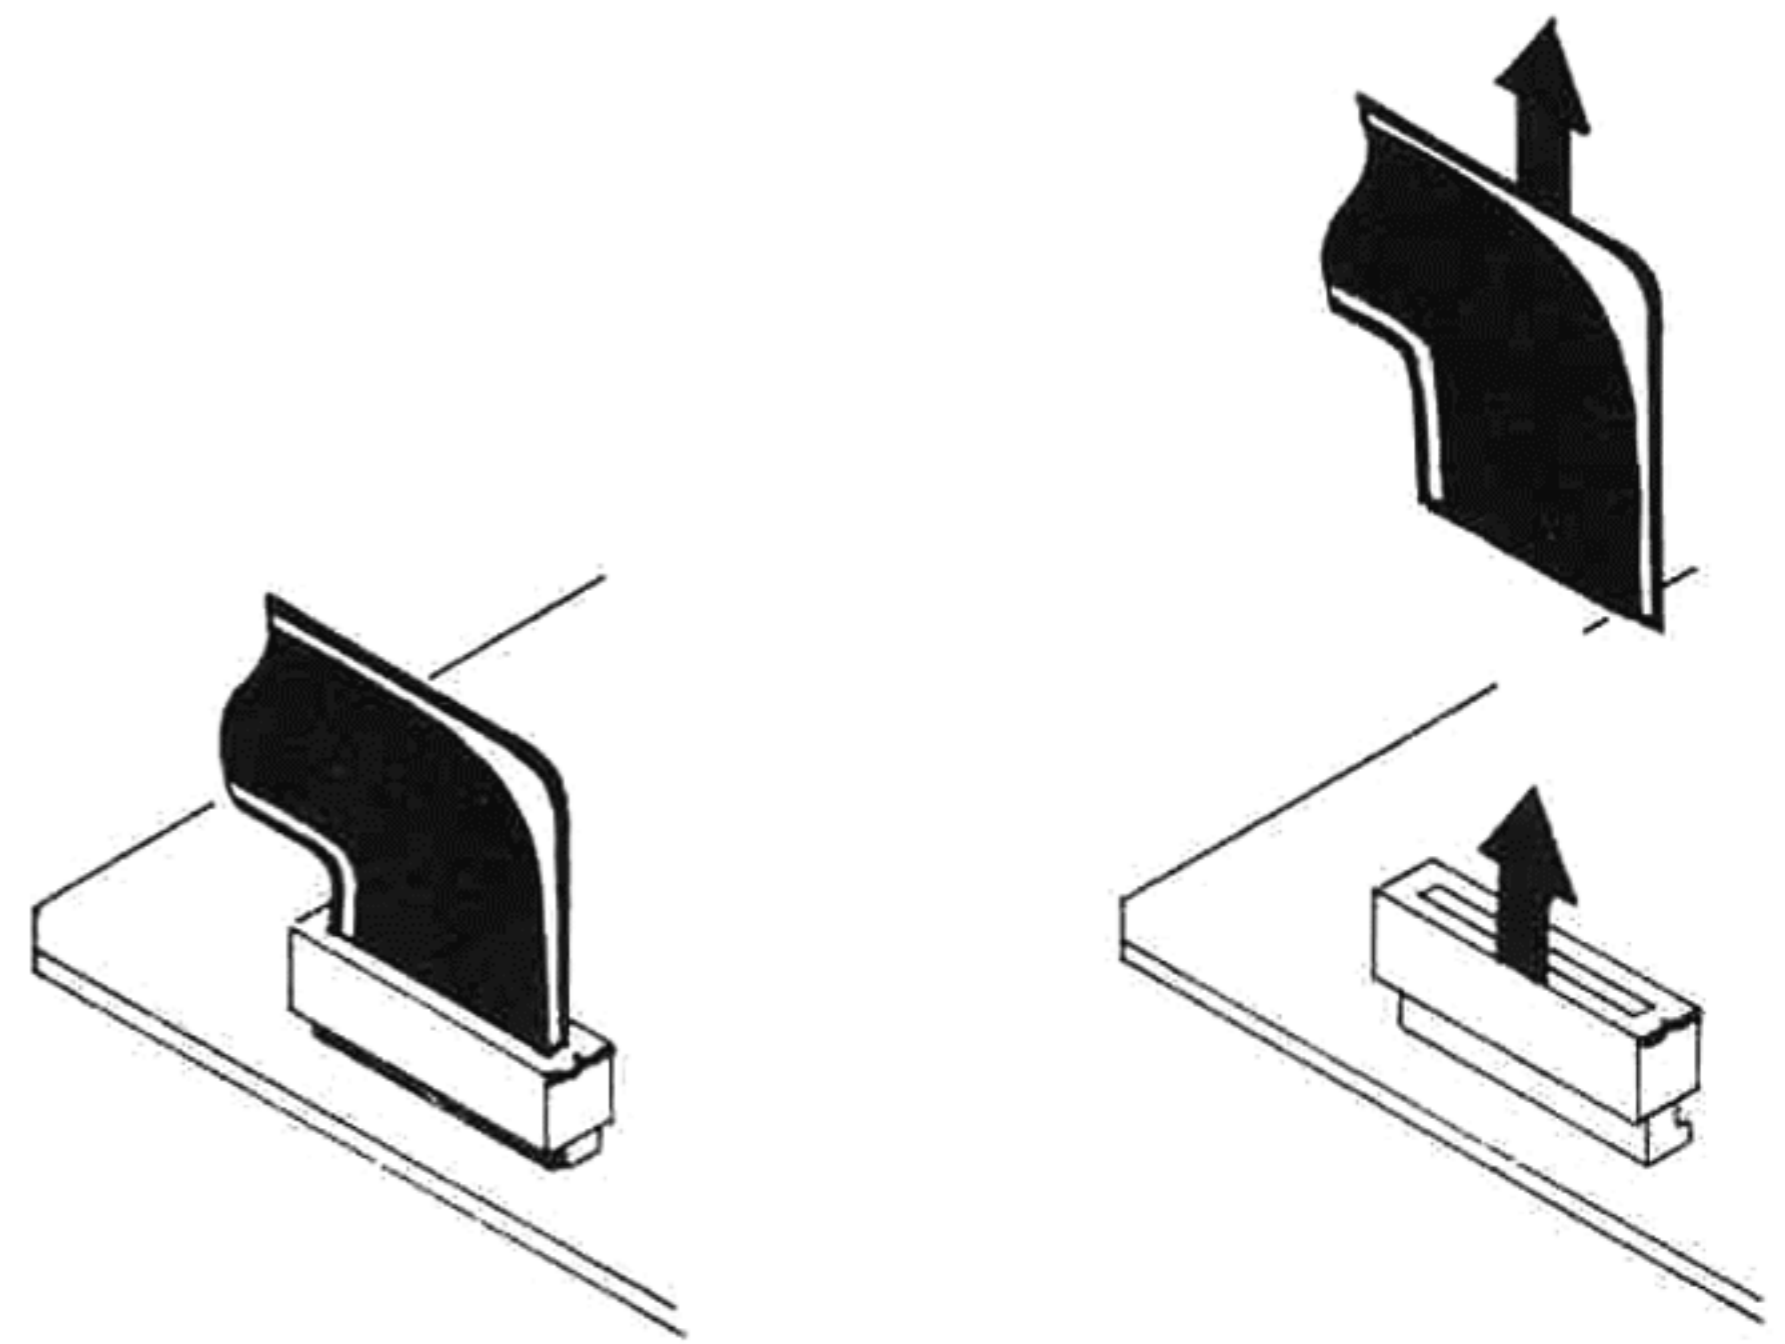

Fig. 1
- Undo the 4 screws on the conductor-side of the servo + pre-amplifier PCB (Fig. 1).